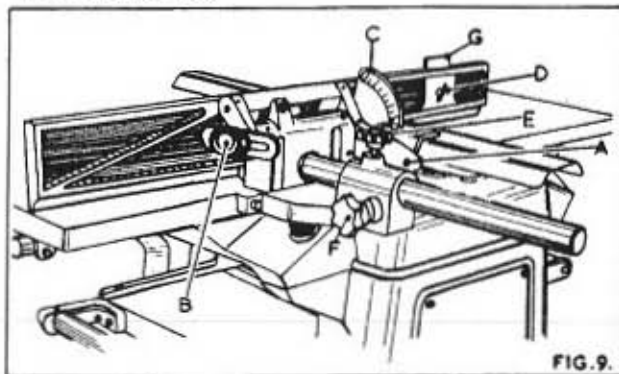
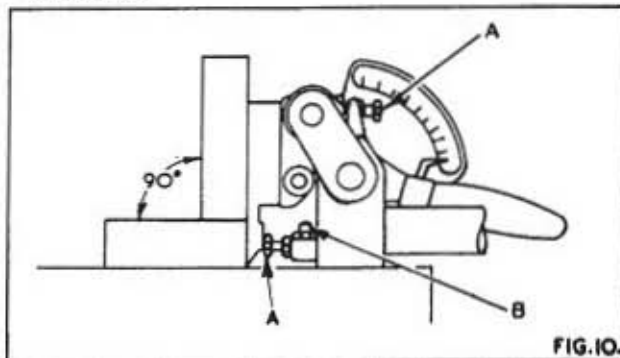

FIG. 9.
FIG. 10.
The fence cants by means of a lever "A" in Fig. 9. The angle is shown on the graduated scale "C".
1. Move the fence towards the rear of the table as shown in Fig. 10.
2. Check the 90° positive stop by means of a steel square as in Fig. 10. If adjustment is necessary adjust the hexagon head bolts "A" until fence is at right angles to the table when hard up against the stops and the handwheel "B" in Fig. 9 locked.
3. Check the 45° positive stop by means of an adjustable square. If adjustment is necessary adjust the socket head grubscrew "B" in Fig. 10 until the fence is 45° to the table when hard up against the stop and the handwheel "B" in Fig. 9 locked.